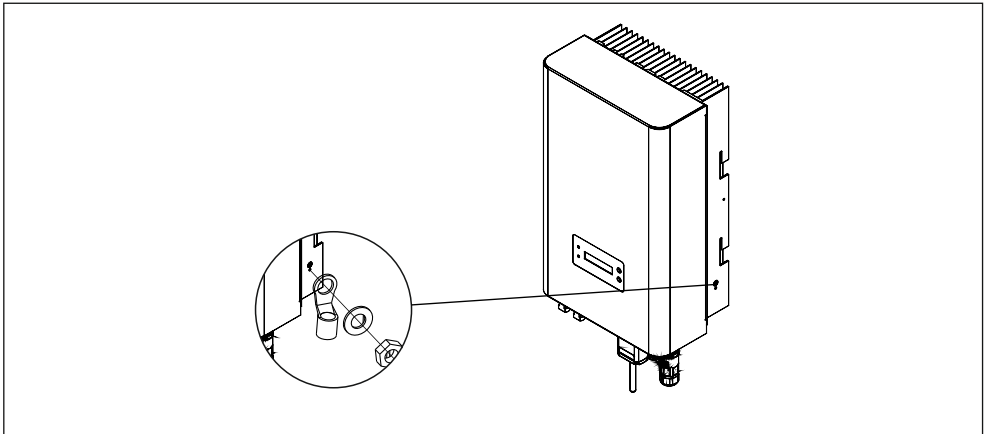

Fig. 16
Grid's earth terminal must be connected to inverter's protective earth (PE) terminal as shown in fig 16.